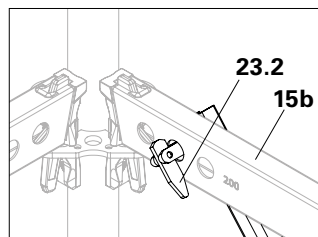

Fig. A4.06e
5. Set the tilt finger crosswise. → Ledger Brace UBL-2 is mounted. (Fig. A4.06e)
All tilt fingers (**23.2**) of the assembly must be transverse after installation of the Ledger Braces UBL and rest on both sides of the hole. (Fig. A4.06e)